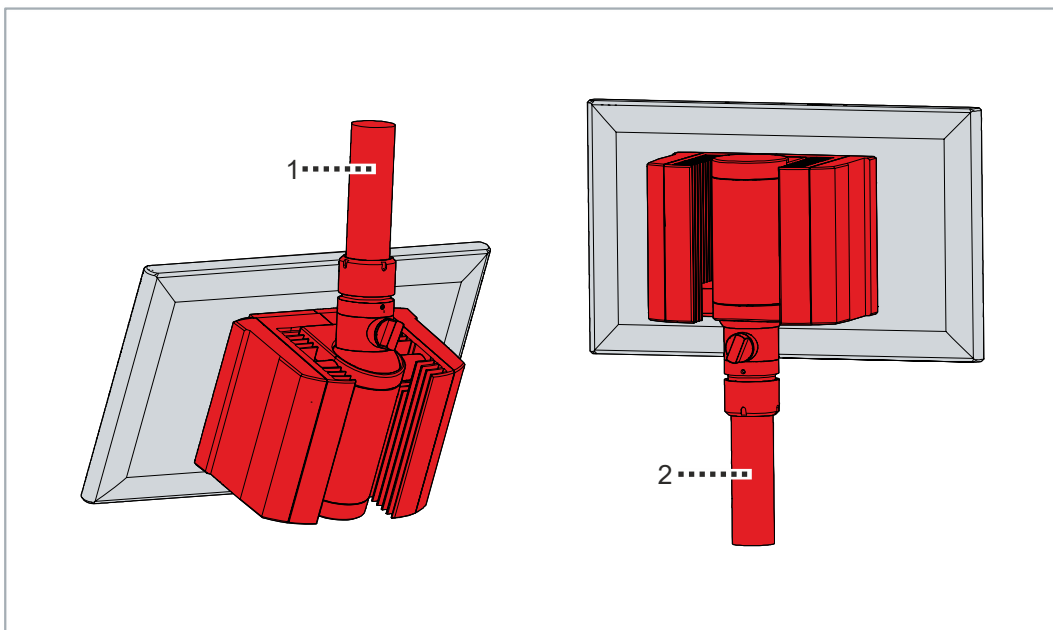

Fig. 6: Mounting arm adapter
Figure 6 shows the standard variant with mounting arm adapter from above (1) and the option with mounting arm adapter from below (2). Regardless of whether the mounting arm adapter is aligned upwards or downwards, it has a locking screw to prevent it from rotating and can be swiveled by  $\pm 165^\circ$ . The adapter adapts the panel PC with a 48 mm circular tube. The permissible tolerance of the pipe diameter is  $-0.1$  to  $+0.8$  mm.